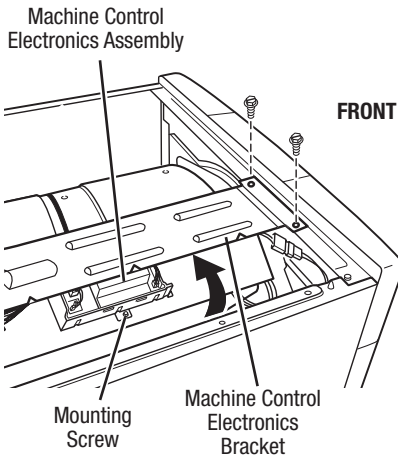

Figure 14a. Remove machine control electronics from mounting bracket (on some models)
2. Slide the bracket over the top of the drum to access the machine control electronics connectors and mounting screw. See figure 14a or 14b (depending on model).
2. Remove the screw holding the machine control electronics assembly to the mounting bracket. See figure 14a or 14b (depending on model).